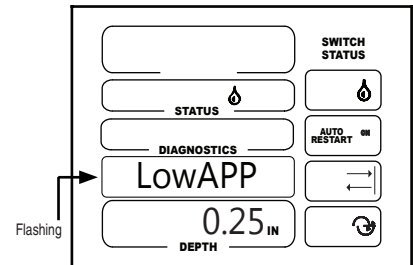

Figure 25-2
The minimum application is the depth of water applied at a percentage timer setting of 100%. The value found on the VChart Report is specific to the machine and used to calculate water applications at different machine speeds. Range is 0.01 to 1.00 inches or 0 to 25.4 millimeters of water and default value is 0.25 inches. See figure 25-2.
1. LowAPP should be flashing. See figure 25-2.